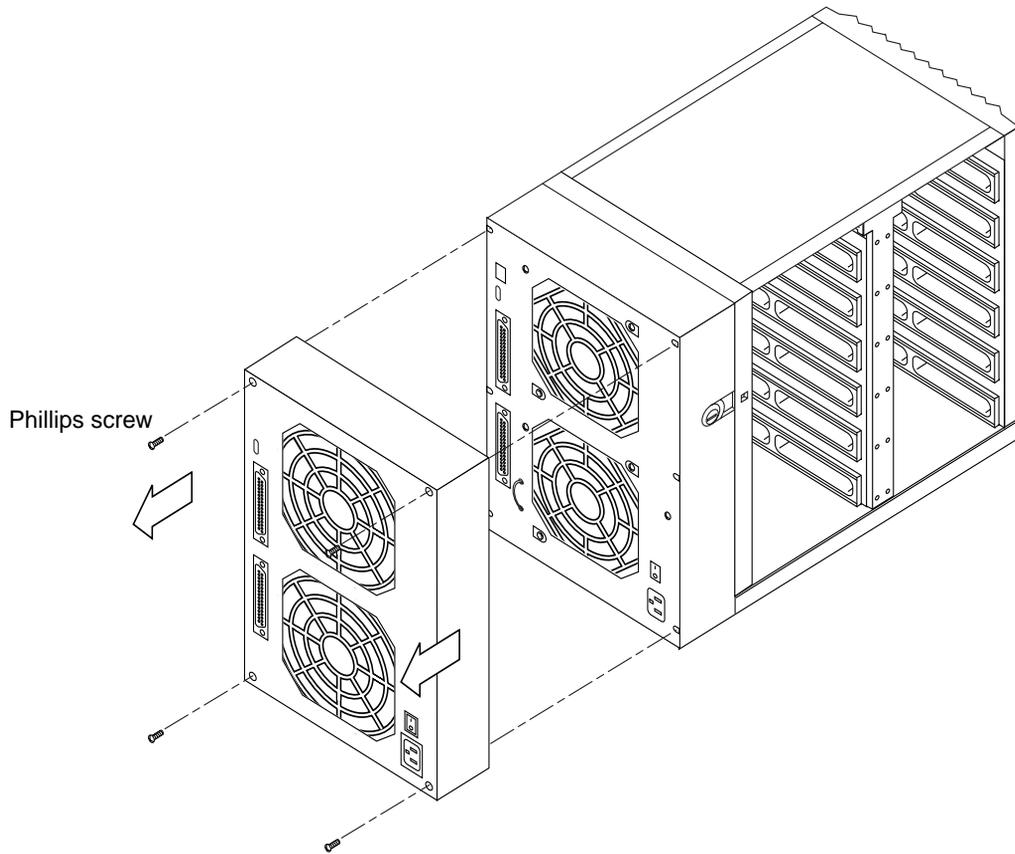

FIGURE 2-4 Removing the Back Cover
4. Remove the three screws and the lock block that hold the back cover (FIGURE 2-4).
- 7. Insert and tighten the three corner screws and install the lock block to hold the back panel to the enclosure (FIGURE 2-4).**